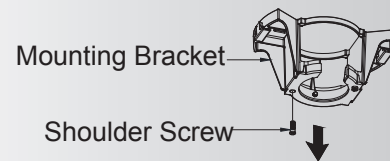

Fig. 14
**Step 1.** Remove one of the two shoulder screws in the mounting bracket. Loosen the second shoulder screw without fully removing it. (Fig. 14)